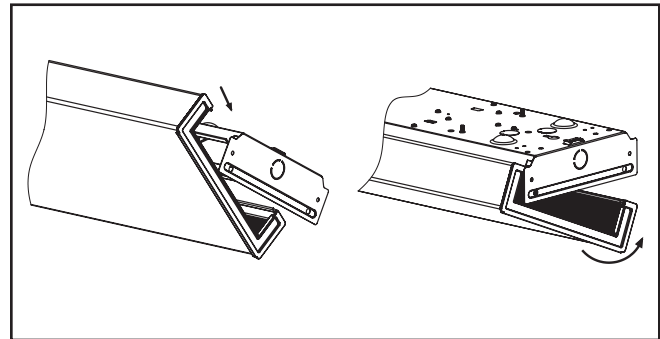

Figure 4.
7. Install lens on one side of the fixture and rotate to engage the opposite side (Figure 4).